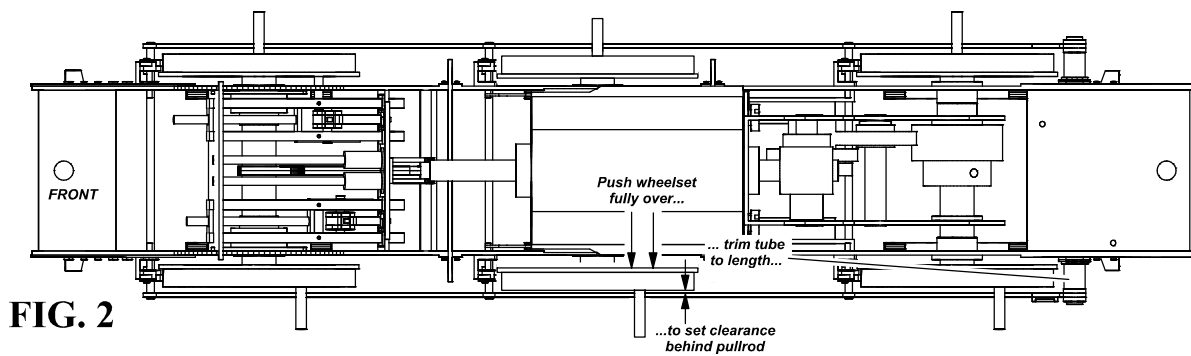

FIG. 2
With the hanger assemblies in place, you can set the clearances for the brakes. Start by soldering the brake rod details (45 x2 - they represent the hexagonal adjusters) to the brake pull rods (46 x2). Now cut two lengths of 2mm OD tube, to approx. 3.5mm long and slot these onto each end of the cross shaft, followed by an actuator (47 x4) - don't solder anything in place. Push a long length of 0.5mm wire into the bottom holes of the actuators. Feed the pull rods over the ends of the wires, at the bottom of the hangers, with the rearmost hole in the rod slotting onto the wire in the actuator. Set the pull rods so they run parallel to the chassis, and then look at the distance between the backs of the rods and the wheel faces. It's likely you'll need to trim some length from the tube on the crossshaft - the length of this tube determines the clearance between the pull rods and the wheel face (see Fig. 2). Take into account the sideplay on the axles - with the wheels pushed fully over to one side, we suggest an additional 0.4mm clearance, which can be set using a piece of fret waste. When everything is in position, solder the tube to the cross shaft.
Study Figs 2,3 &4. Before cutting the gearbox etch (51) from the fret, progressively drill out or ream each of the holes to accommodate the shafts or bushes shown in the diagrams. Components should be offered up until they are a tight push-fit in their holes. Once the gearbox is assembled, the shafts are fixed but the gears are free to revolve.